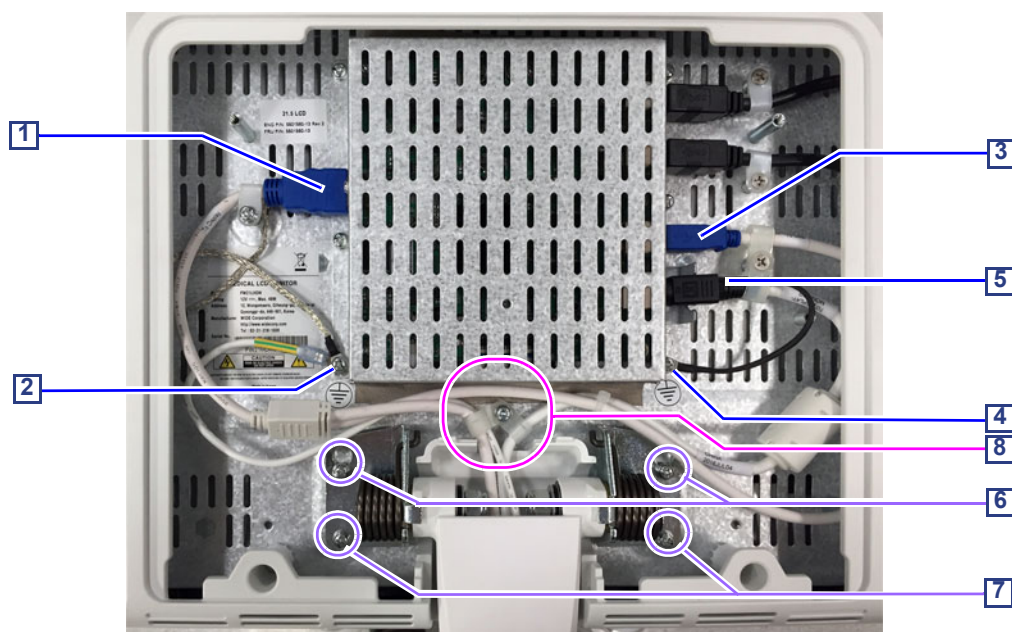

Figure 8-32 Monitor Rear Cover's fixing screws
- a.) Remove the two fixing screws (Figure 8-32).